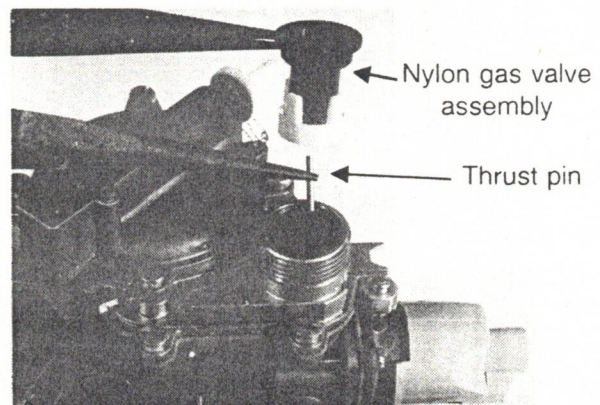

Fig. 3. THRUST PIN LOCATION
The heaters are produced with either the gas valve assy shown in Fig. 4 (item no's. 80/ 81/82/83/84), or the nylon gas valve assembly shown in Fig. 3. Replace with the same type.
4. Using pointy nosed pliers, remove the thrust pin and lightly grease. Refer Fig. 3.